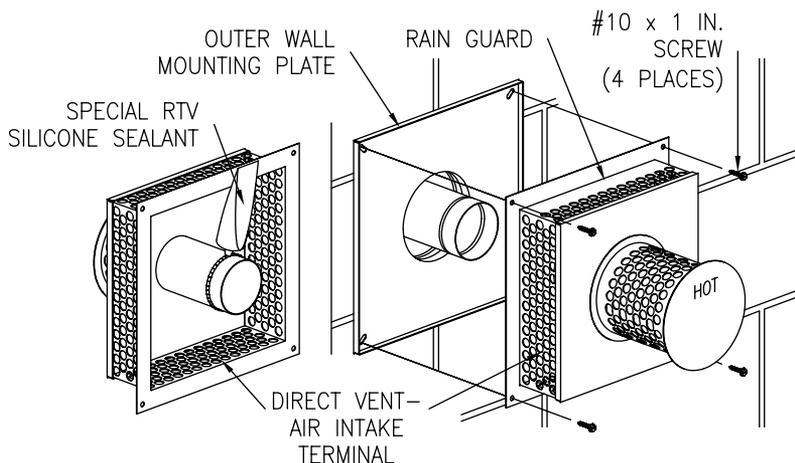

Figure 10
11. Using the supplied special RTV silicone sealant, apply a bead one (1) inch (2.5 cm) from the end of the three (3) inch (7.6 cm) diameter tube that is part of the vent-air intake terminal. Slide the direct vent-air intake terminal into the three (3) inch (7.6 cm) diameter telescopic tube that extends through the wall and position it so it is flush with the outer wall mount plate. Make sure that the rain guard and the word "HOT" on the end of the direct vent-air intake terminal are oriented properly. Secure the direct vent-air intake terminal to the outer wall mount plate and wall with four (4) #10 x 1 inch screws (supplied) (See Figure 10). Note: Certain construction of walls may require the use of different type of anchoring means than supplied. **DO NOT** modify the direct vent-air intake terminal or outer wall mount plate.